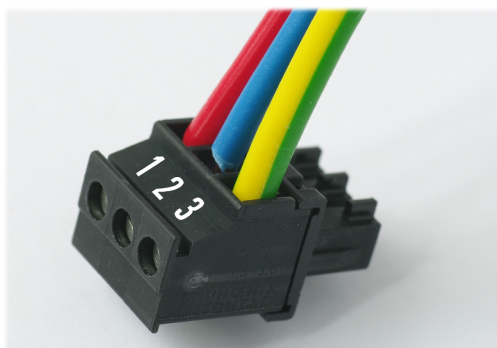

Figure 4-5 Pin assignment of the terminal block
3. Fit the connectors for the power supply. See << Link auf Bild 4.5>>